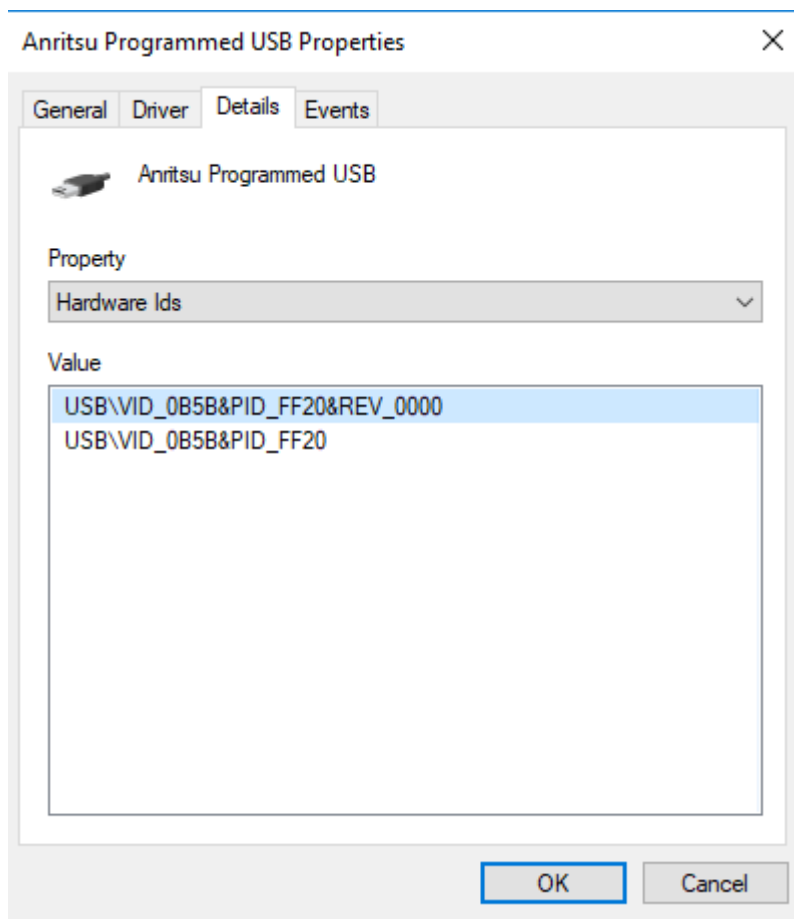

Figure D-2. ANRITSU PROGRAMMED USB PROPERTIES Dialog Box
2. Double-click on Anritsu Programmed USB. In the ANRITSU PROGRAMMED USB PROPERTIES dialog box, change the Property field to Hardware Ids, as shown in Figure D-2. Under Value, MS46131A units will display with a PID of FF20.